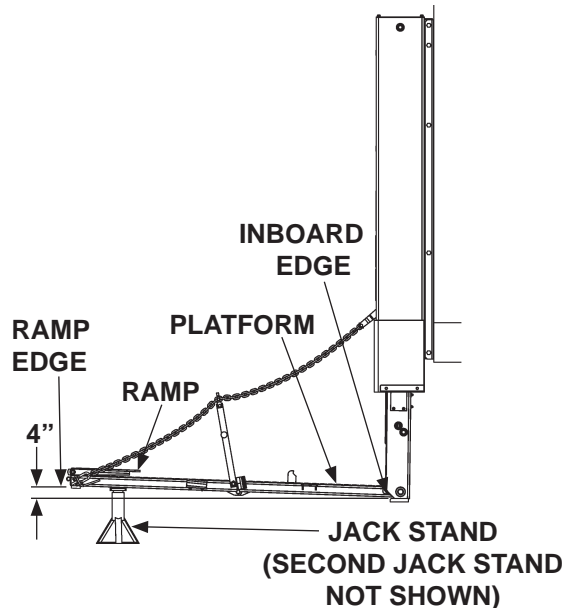

FIG. 7-2
16. Use control box to raise the platform (UP) slightly and remove 2 jack stands near the inboard edge (FIG. 7-2).
17. Use control box to lower (DOWN) platform on jack stands (FIG. 7-2) so inboard edge is 4" below ramp edge.